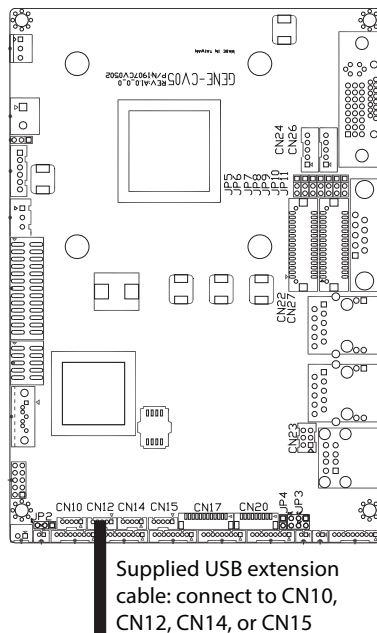

Figure 5 USB connection to PC board
1. Connect the USB extension cable from the mini USB cable to CN10, CN12, CN14, or CN15 on the PC board as shown in Figure 5.